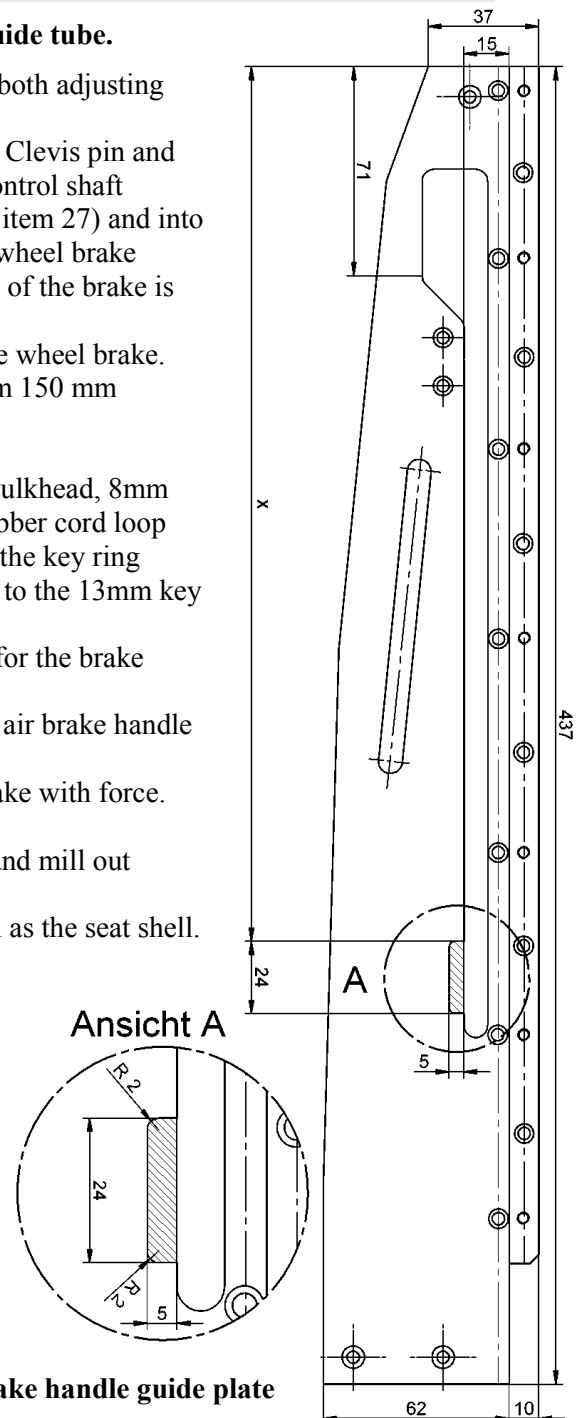

Figure 5, Milling a notch to the air brake handle guide plate
24. Rig the glider, extend the air brakes and pull the wheel brake with force. Determine the measure X, see figure 5.